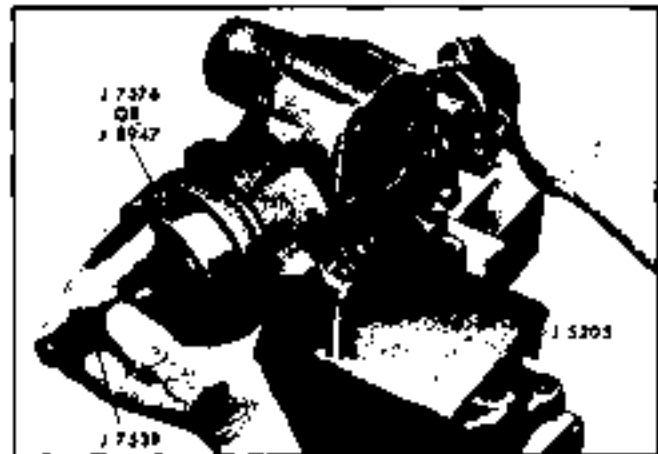

Fig. 9-77 Installing Rack Piston Nut
2. Holding teflon ring compressor sleeve tool J 8947 or J 7578 tightly against the shoulder of gear housing, insert the rack-piston nut and arbor into housing holding the arbor (tool J 7539) until arbor contacts worm end. Use tool J 8947 on Pontiac Catalina models without air conditioning and all Tempest and Firebird models or tool J 7578 on all Pontiac and Grand Prix models except Pontiac Catalina models without air conditioning (Fig. 9-77).